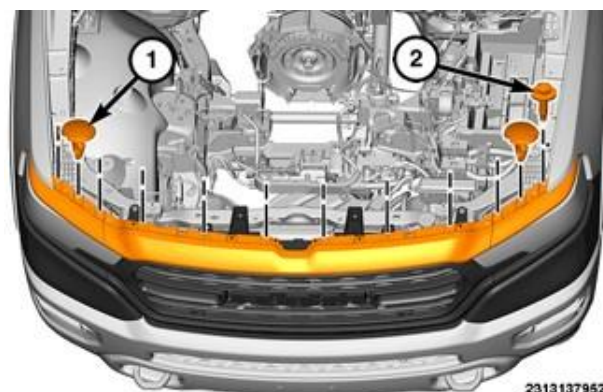

Figure C3 – Grille Upper Trim
6. Remove the bolts and push pin fasteners that secure the grille upper trim (Figure C3).
34. Install the bolts and plastic push pin fasteners that secure the grille upper trim then tighten the bolts to 5 N·m (44 In. Lbs.) (Figure C3).